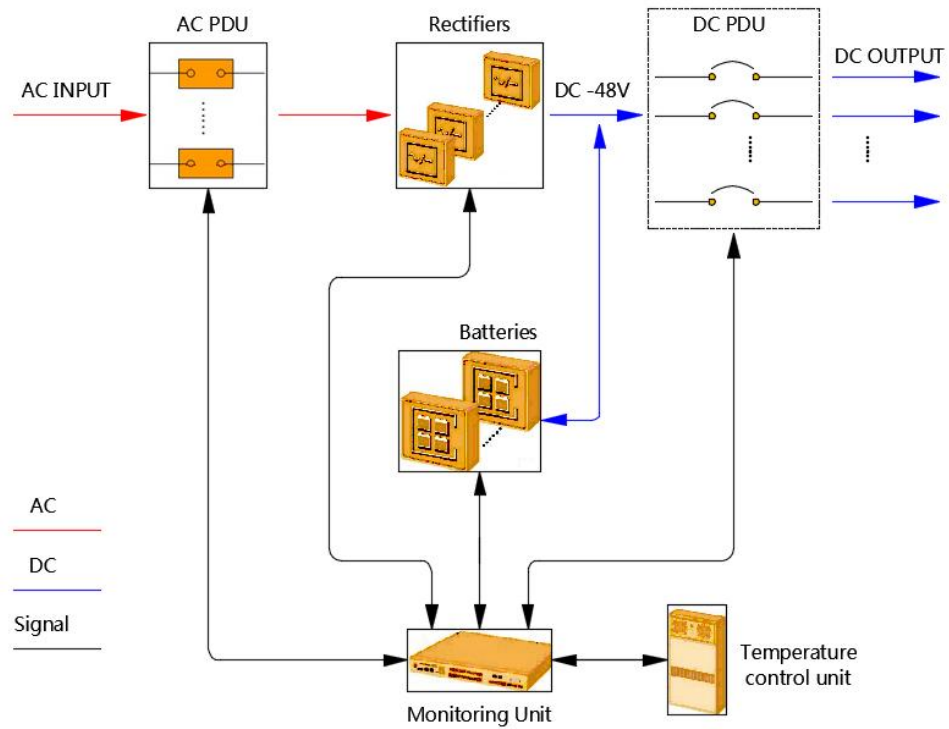

Figure2-2 Conceptual Diagram
2.4 Figure 2-2 shows the conceptual diagram. AC power enters rectifiers through the AC power distribution unit (PDU). The rectifiers convert the AC power input into -48Vdc power output, which the DC PDU directs to DC loads along different routes.